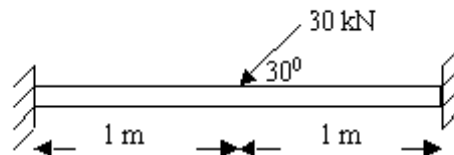

Figure 4
4. Calculate the deflection at the center of the beam as shown in figure4. Take  $E = 220$  Gpa;  $A = 40$  mm  $\times$  40 mm. [16]